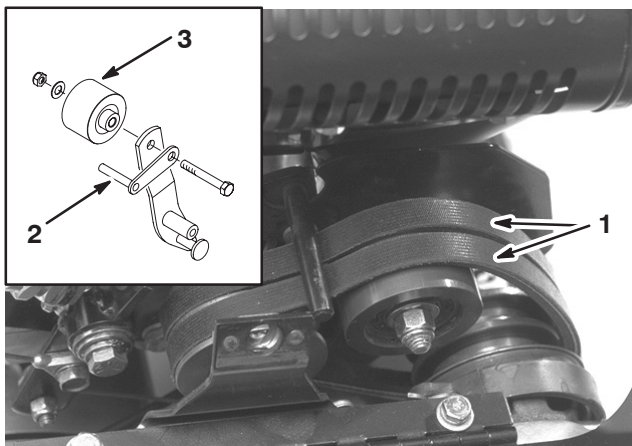

Figure 40
8. To push or pull the machine easier without starting the engine, adjust the belt guide (Fig. 40, inset) as follows: